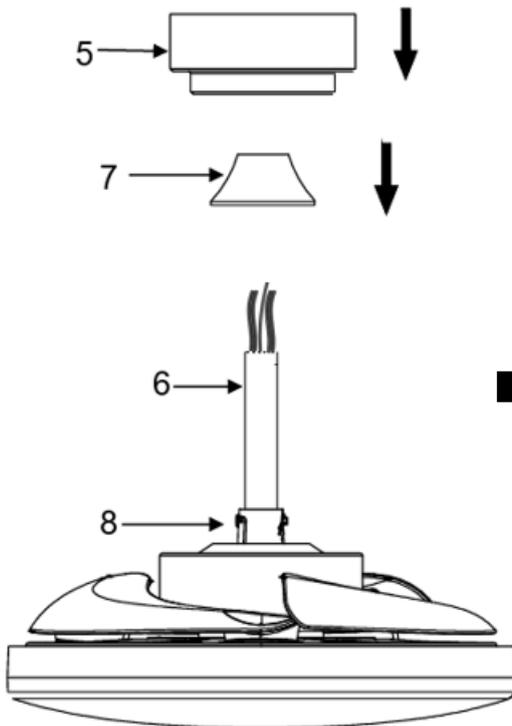
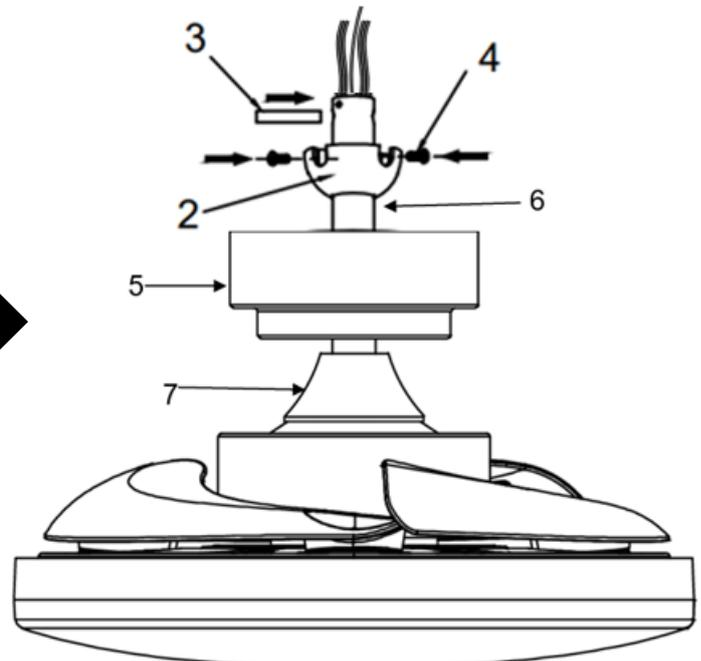

Fig. 6.5
Fig. 6.6
6. Insert the coupler cover (7) onto the down rod (6) to cover the down rod coupling housing (8). (Fig. 6.5)
7. Insert the canopy (5) over the down rod (6) and install the ball joint (2) and dowel pin (3) back onto the down rod (6) and secure by tightening the set screws (4). (Fig. 6.5 and Fig. 6.6)